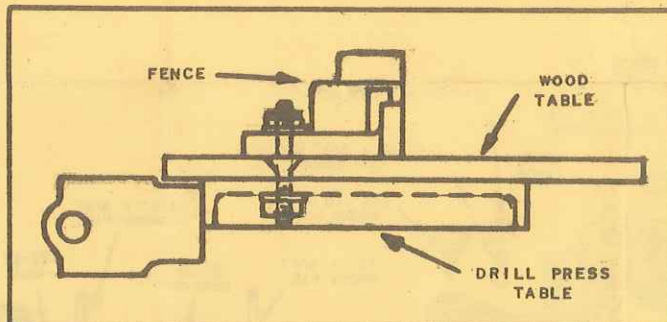

Figure 2 Method of Mounting Shaping Table and Fence to Drill Press Table.
1. Mount the wood table and fence to the drill press table and fasten in place with the special screws furnished - see Figure 2. There are two sets of mounting holes - the ones that are countersunk. Mount the table so that the countersink is on top - see Figure 2. Use the set that lines up with the slots in your drill press table.